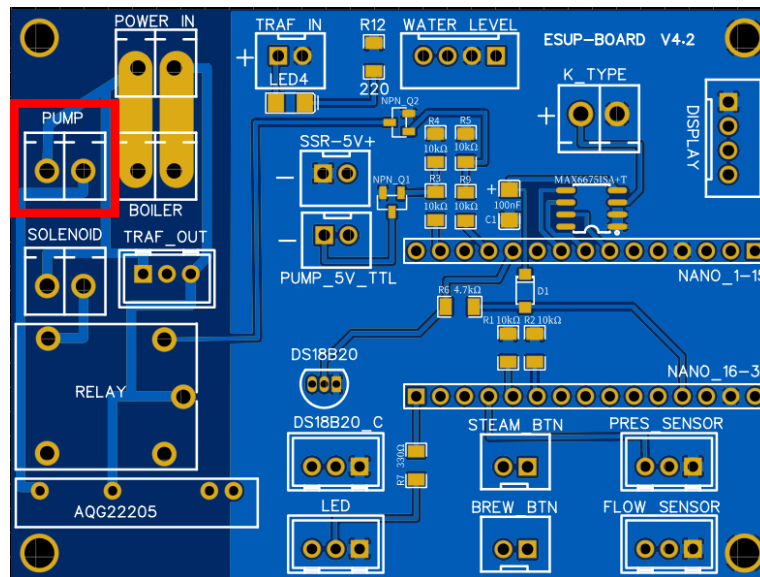

Fig.10.1
- Take PUMP cable and connect it from the main board to the pump (fig.10.1)